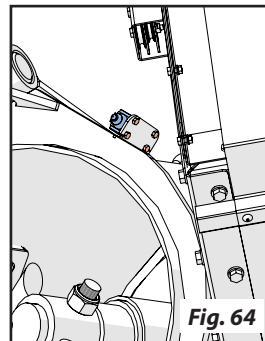

Fig. 64
- Install the limit switch to turn on the field light using the M5 x 12 hex bolts. Figure 64